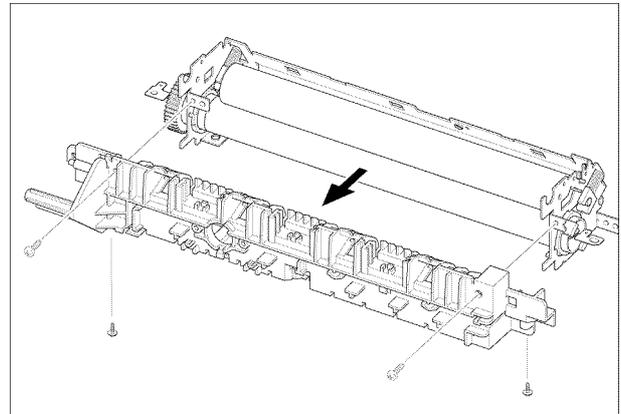

Figure 10
11. Remove 4 screws, then the fuser cover, Figure 10.